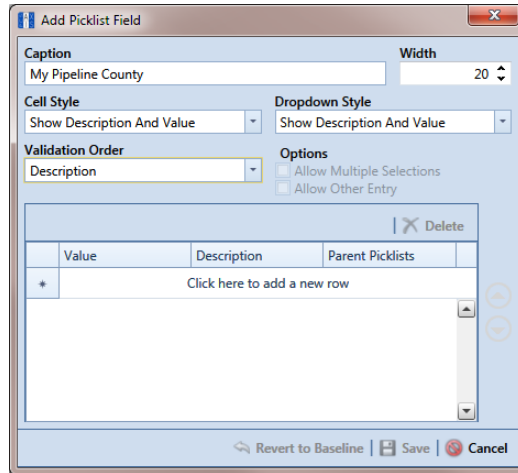

Figure 3-49. Add Picklist Field
- 5 When the dialog box *Add Picklist Field* opens, set properties and add data items for the child picklist in the following manner (Figure 3-49, page 96):